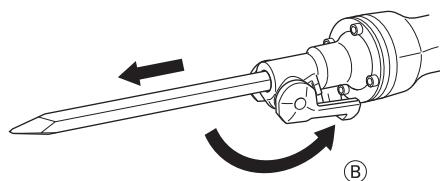

Fig. 7
- (3) Clamp the accessory into place by bringing the retainer to clamp position Ⓐ. To make sure that the accessory is properly mounted, pull on the accessory. (Fig. 7)